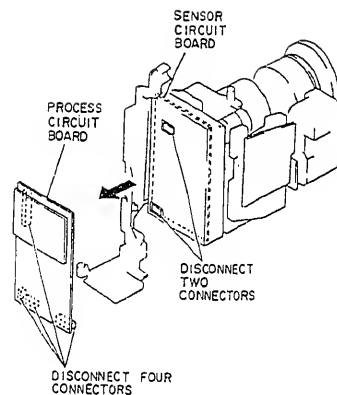

Fig. 2-14
1. Pull the process circuit board in the direction of arrow disconnect two (2) connectors (CN101, CN102) between the sensor circuit board. (See Fig. 2-14)
2. Disconnect four (4) connectors (CN203, CN204, CN205, CN206) on the process circuit board.